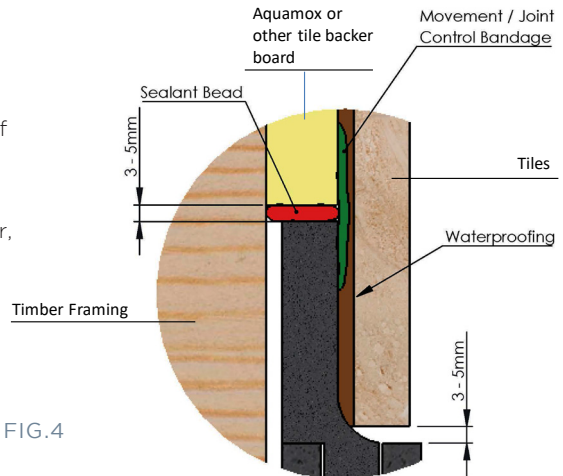

FIG.4
- Seal between top of upstand and bottom of Gib with silicone, ensuring the inside face of both are flush. (FIG 4)